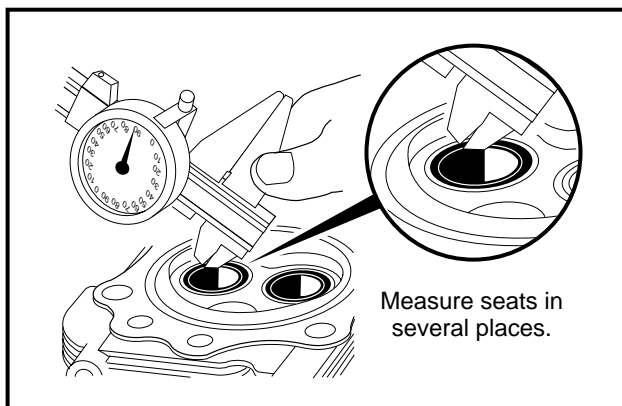

Figure 13-25 Measuring Valve Seats
- 2.2. Measure the seat width of the 45° angle portion of the seat at several places around the seat (**Figure 13-25, Page 13-15**).